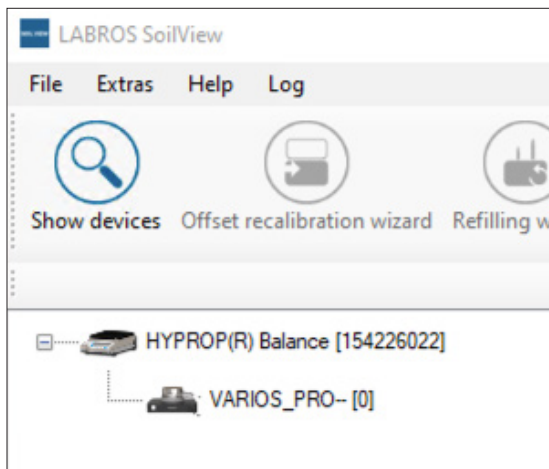

Figure 21 Devices shown in SoilView device tree
10. Secure the sensor cable connector in the retaining rings (Figure 21).